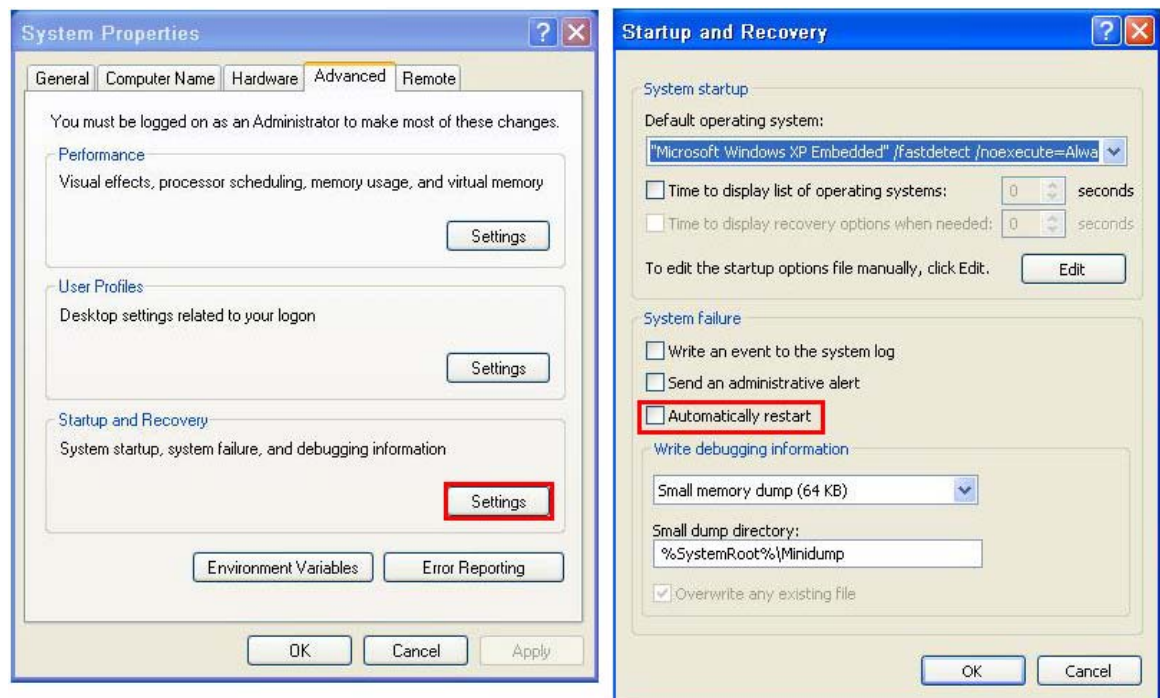

Figure B-23: Disable Automatically Restart
Step 3: **Disable the automatically restart function before creating the factory default image.** Go to: My Computer → Properties → Advanced. Click the Settings button of Startup and Recovery. Deselect "Automatically restart". Click OK to save the settings and exit. (See Figure B-23)